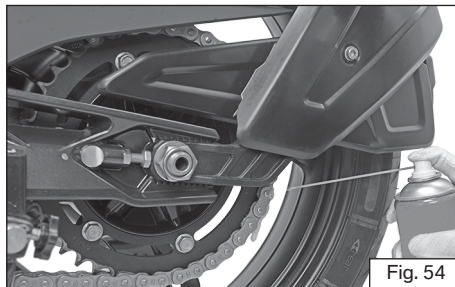

Fig. 54
- ♦ Slowly rotate the rear wheel in driving direction or wheel rotation direction. Apply recommended spray liberally as shown to the drive chain inner lower runs (ref. Fig. 54).